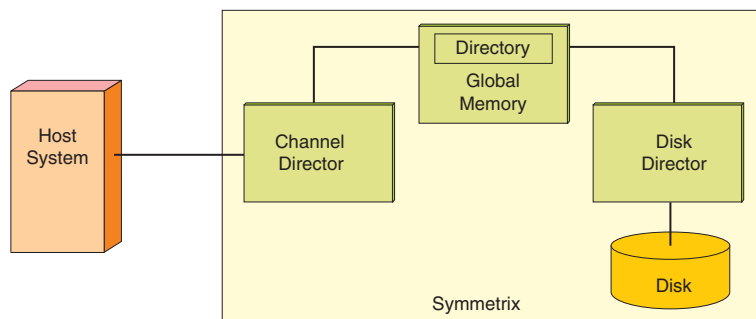

Figure 3-2 Symmetrix global memory management and data flow
Symmetrix DMX systems use the same memory principle as host systems, but with enhanced caching techniques in global memory. Figure 3-2 illustrates global memory use in Symmetrix systems.
- ◆ The channel director handles I/O requests from the host. It accesses the directory in global memory (Figure 3-2) to determine if the request can be satisfied within global memory. The directory contains information on each memory page and blocks within each page.